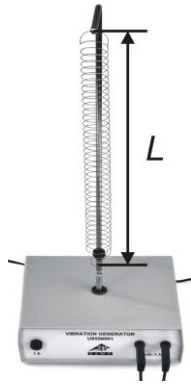

Fig. 4a: Illustration of the (effective) length  $L$  of the stretched coil spring.
- Set the (effective) length of the spring  $L$  (Fig. 4a) to about 30 cm. You might need to adjust the position of the angled stand rod.
- Measure the effective lengths  $L$  of the the stretched coil spring and the stretched rope (Fig. 4a, b) and make a note of them.